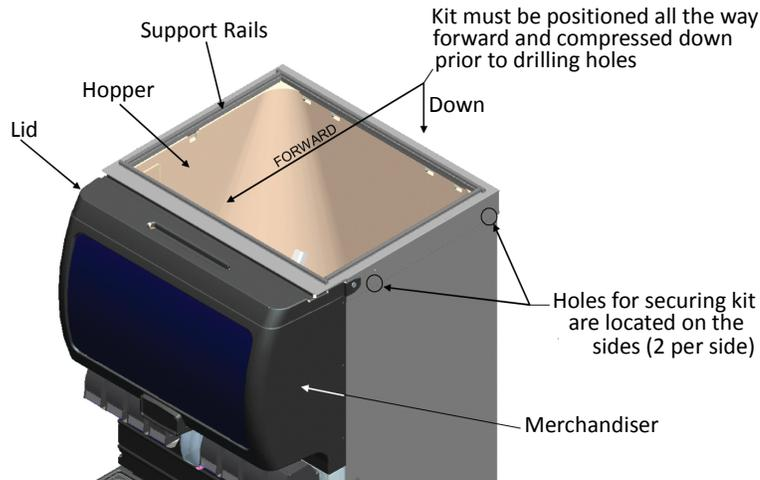

Figure 3. (IDC Dispenser shown, this kit also works with ProGate Dispenser)
- Using the four holes in the adapter cover as templates, drill 9/64" (.140" Dia.) holes in the sides of the dispenser (2 holes per side). **USE EXTREME CAUTION NOT TO DRILL INTO ANY OTHER COMPONENTS.** Maximum drill depth from the face of the kit should not exceed 3/8" (just enough to go through the material being drilled). Remember, the kit should be all the way forward and compressed down before drilling the holes. Otherwise, undesirable gaps may result (lid to merchandiser) and the internal latch feature for the lid may not function properly. After holes are drilled, secure the kit to the machine using the screws provided, refer to Figure 3.